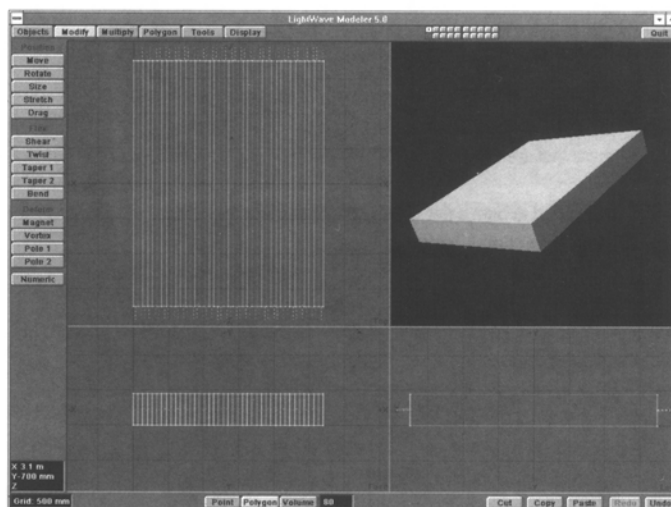

Figure 1
- First, select the polygons on the positive Z, and negative Z ends of the object as in Figure 1.